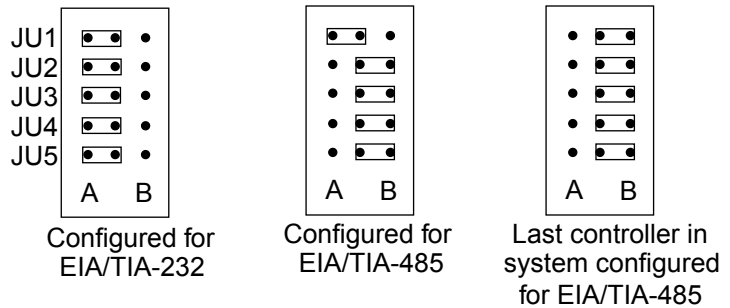

Figure 9.5 Jumper Configurations
To switch between EIA/TIA-232 and EIA/TIA-485, change the jumpers as shown in *Figure 9.5*.
5. Use tweezers to gently slide jumpers JU2, JU3, JU4 and JU5 onto the correct pins (see *Figure 9.5*).